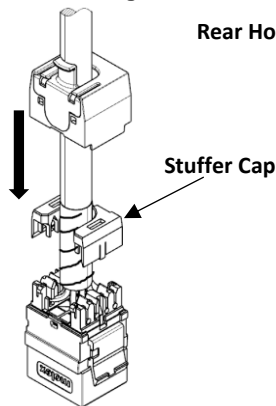

Fig.9
- 2.1 Fix the stuffer cap to IDC Housing (Fig.9) (Ensure Stuffer cap is locked perfectly with IDC Housing) and then slide down the Rear Housing till it is locked with IDC Housing 4 latches.